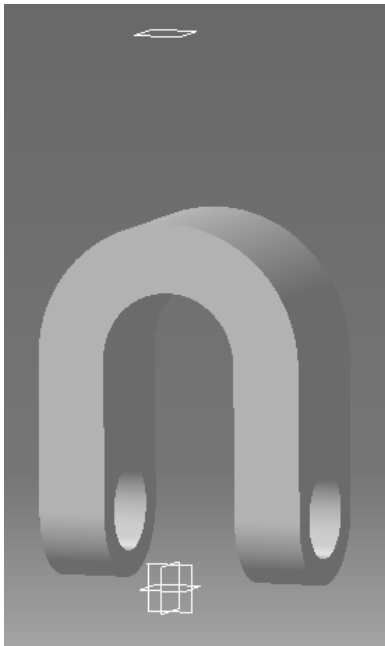

Figure 2.10
2.18 Select the **Plane** tool from the **Reference element tool bar** and with the **Plane Definition** window set to **“Offset from Plane”**, create a plane **150mm** from the **XY Plane** as shown in Figure 2.10